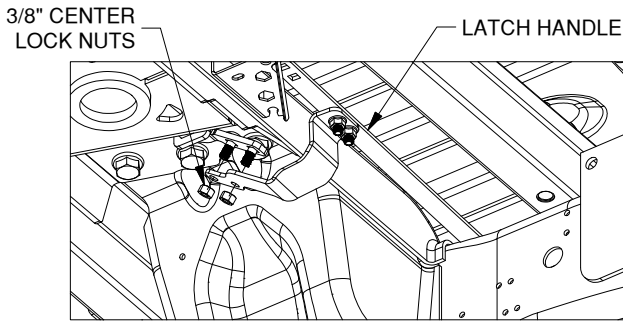

Figure D4: Looking back at driver side of center section.
4. **Install the latch pin handle.** Beginning under the vehicle, "thread" the end of the handle in front of the brake lines and over the frame on the driver side. Attach the handle to the latching mechanism over the 3/8" carriage bolts with two 3/8" locking flange nuts, see Figure D4. Be sure that the handle is in the proper position and that it does not interfere with any other components of the vehicle. Torque the nuts to 30 ft. lbs. to secure the handle.